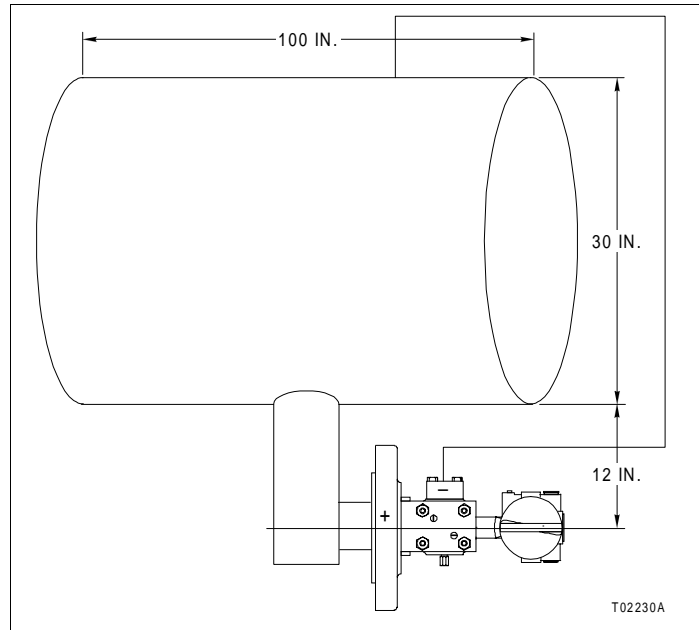

Figure 2-8. Flat End (Cylindrical) Tank Measurement
Figure 2-8 shows a flat end (cylindrical) tank setup. This is a general purpose tank. This procedure shows how to calculate the values entered into the transmitter (via the Type STT terminal) during configuration if *VOL./TANK* is chosen from the *OUTPUT TYPE* menu.
- b. If the location of the cell is below the bottom of the tank, as shown in Figure 2-8, then offset the zero by setting the primary lower range value to the pressure corresponding to the distance between the bottom of the tank and the cell times the specific gravity of the liquid.
- b. If the location of the cell is below the bottom of the tank, as shown in Figure 2-8, then the primary upper range value is the height of the tank times the specific gravity of the liquid plus the lower range value.
Example: A Type PTSDLC level transmitter is installed as in Figure 2-8, and will be configured in the United States. The tank is filled with water (specific gravity = 1.0). The transmitter has an upper range limit of 120 inches of water. The cell is mounted 12 inches below the bottom of the tank. The tank itself is 30-inches in diameter and 100-inches long. The empty volume is zero and the full volume is 306 gallons.